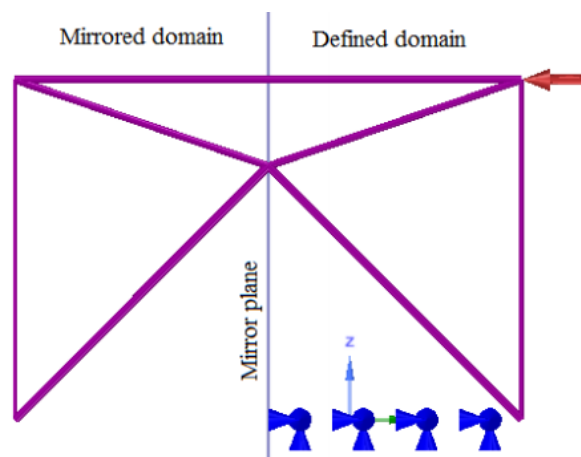

Figure 101 - Optimization using "Default" mirroring properties
- **Default:** load is applied only to one side of the design domain (Figure 101).